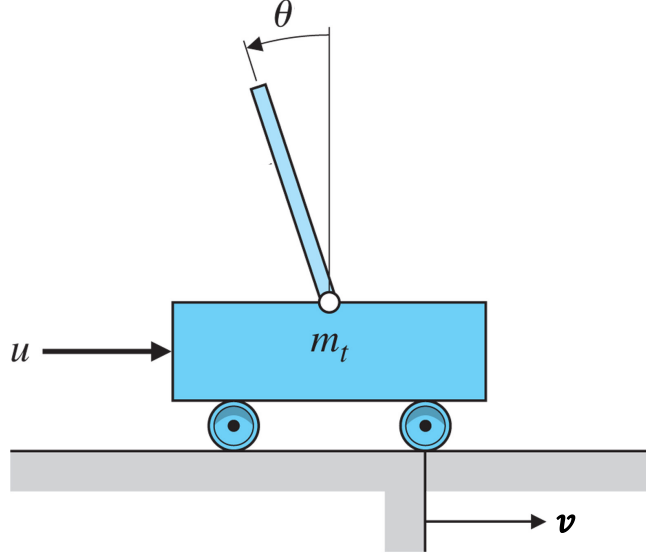

Figure 2: Cart-stick balancer.
2. **Remote control with delay compensation.** Consider the cart-stick balancer system in Figure 2,